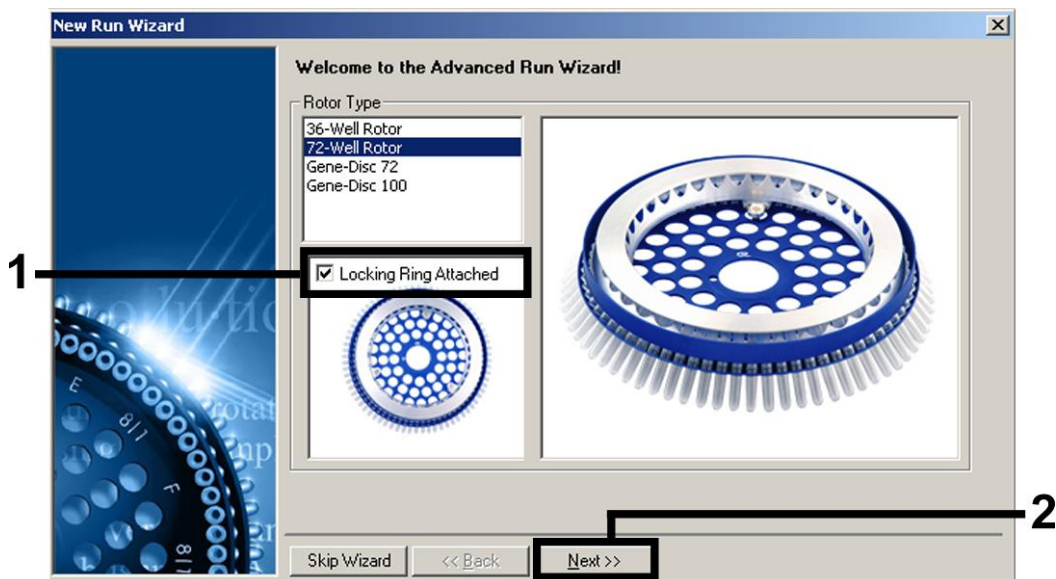

Figure 1. The “New Run Wizard” dialog box.
3. Open the “New Run Wizard” dialog box (Figure 1). Check the “Locking Ring Attached” box and click “Next”.